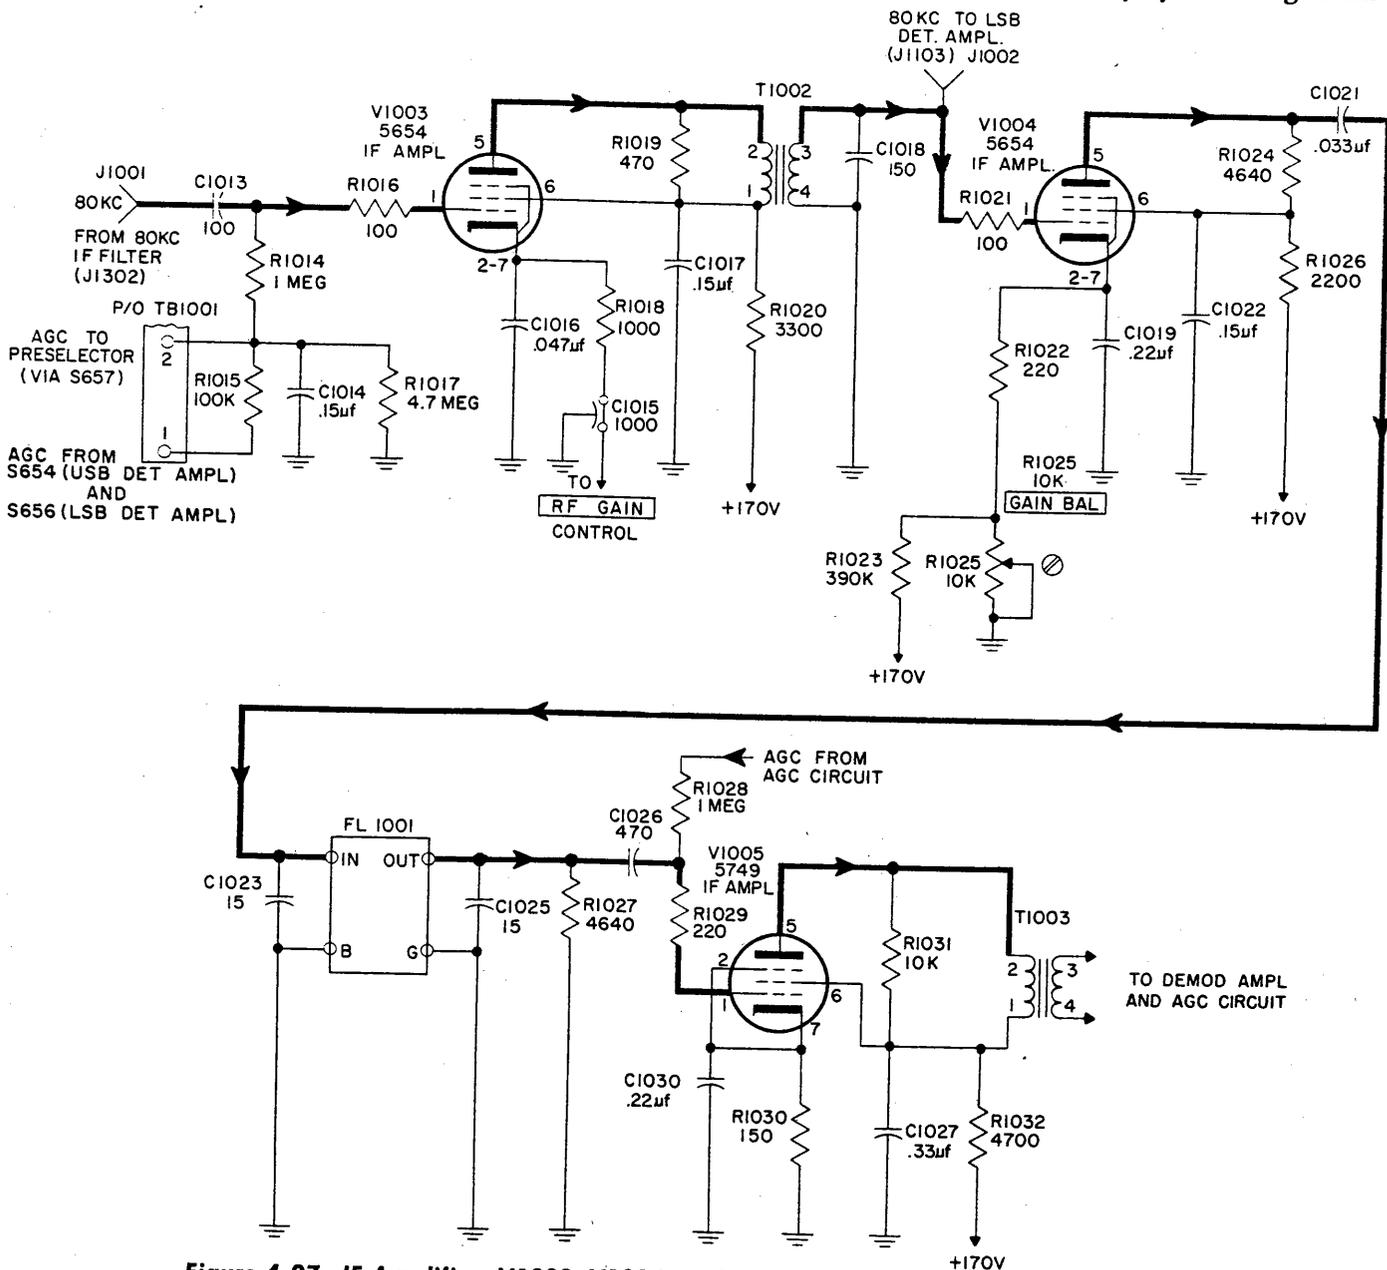
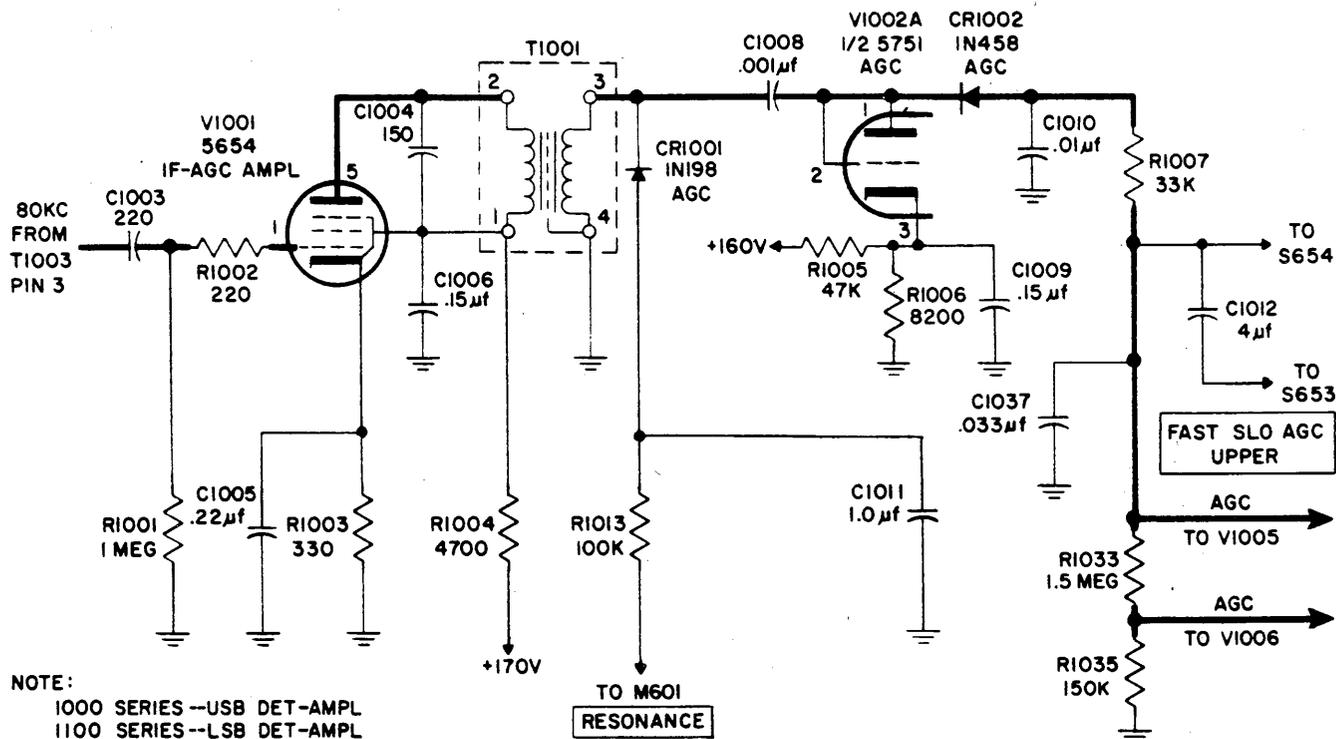
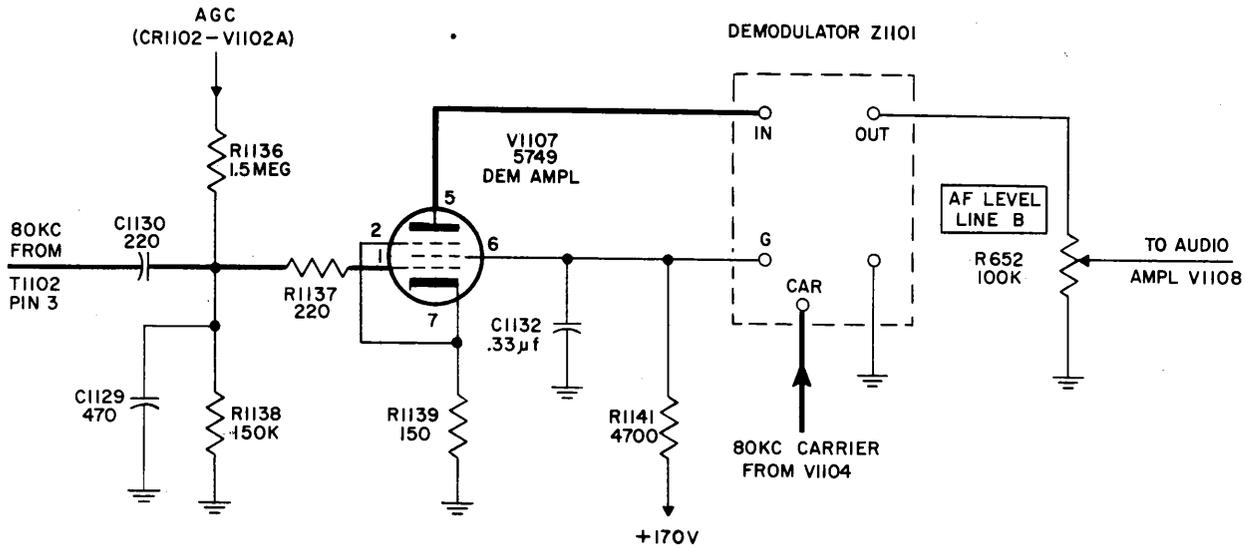

Figure 4-27. IF Amplifiers V1003, V1004, and V1005, Simplified Schematic Diagram
Figure 4-28. Automatic Gain Control Circuits, Simplified Schematic Diagram
Figure 4-34. Demodulator Amplifier V1107 and Balanced-Ring Demodulator Z1101, Simplified Schematic Diagram
b. IF AMPLIFIERS V1003, V1004, AND V1005. (See figure 4-27.)—The grid of V1003 receives its signal from the 80 kc filter through input connector J1001 and coupling capacitor C1013. The output of V1003 is developed across IF transformer T1002 and applied to IF amplifier V1004, also to the LSB detector-amplifier by way of connector J1002. The gain of V1003 is governed manually by the R.F. GAIN control on the lower converter panel and automatically by the voltage from
(figure 4-28). The latter develops a control voltage which is fed back through isolating resistor R1028 to the grid of V1005 (figure 4-27).
c. AGC CIRCUITS. (See figure 4-28.)—The 80 kc signal from T1003 (plate load of V1005) is applied to IF AGC amplifier V1001 through capacitor C1003. The output of V1001 is developed across transformer T1001 and applied directly to diode CR1001 and through capacitor C1008 to diodes V1002A and CR1002.
Figure 4-28 is the schematic diagram for the AGC circuits of both the USB and LSB detector amplifiers. These circuits are identical except for symbol reference designations. Numbers on the figures in the 1000 series refer to the upper sideband; those in the 1100 series refer to the lower. Both series are shown on the diagram.
The output of FL1101 is applied through coupling capacitor C1127 to IF amplifier V1106, the amplified output of which is developed across IF transformer T1102 and fed to demodulator amplifier V1107 (figure 4-34) and the AGC circuit (figure 4-28). The gain of V1106 is governed manually, by the R.F. GAIN control on the lower converter panel, and automatically, by the
c. LSB DETECTOR-AMPLIFIER AGC CIRCUITS. (See figure 4-28.)—The operation of the AGC circuits of the USB and LSB detector-amplifiers is identical. Refer to sub-paragraph 4-9c for a discussion of both. Figure 4-28 is a schematic diagram of both circuits. Symbol reference designations in the 1000 series refer to the USB circuits; those in the 1100 series refer to the lower sideband.
e. DEMODULATOR AMPLIFIER V1107, BALANCED-RING DEMODULATOR Z1101. (See figure 4-34.)—Demodulator amplifier V1107 receives its input signal from IF amplifier V1106 (T1102) through capacitor C1130. The plate load impedance of V1107 is in demodulator Z1101, which in addition detects the LSB IF signal. A second input to Z1101 is the 80 kc inserted carrier from carrier amplifier V1104. When Z1101 receives no IF signal at its IN terminal it has no output, but when there is an IF input at IN, the combination of IF signal and 80 kc carrier results in output